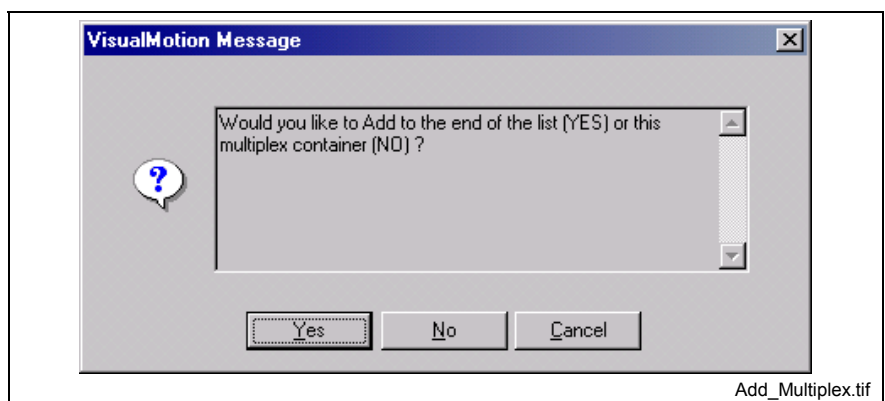

Fig. 7-105: Add Item or Multiplex Item Window
2. Click **Add**. The window in Fig. 7-105 below appears. Because it is unclear whether you would like to add to the list or to the multiplex container, the Fieldbus Mapper is requesting clarification.